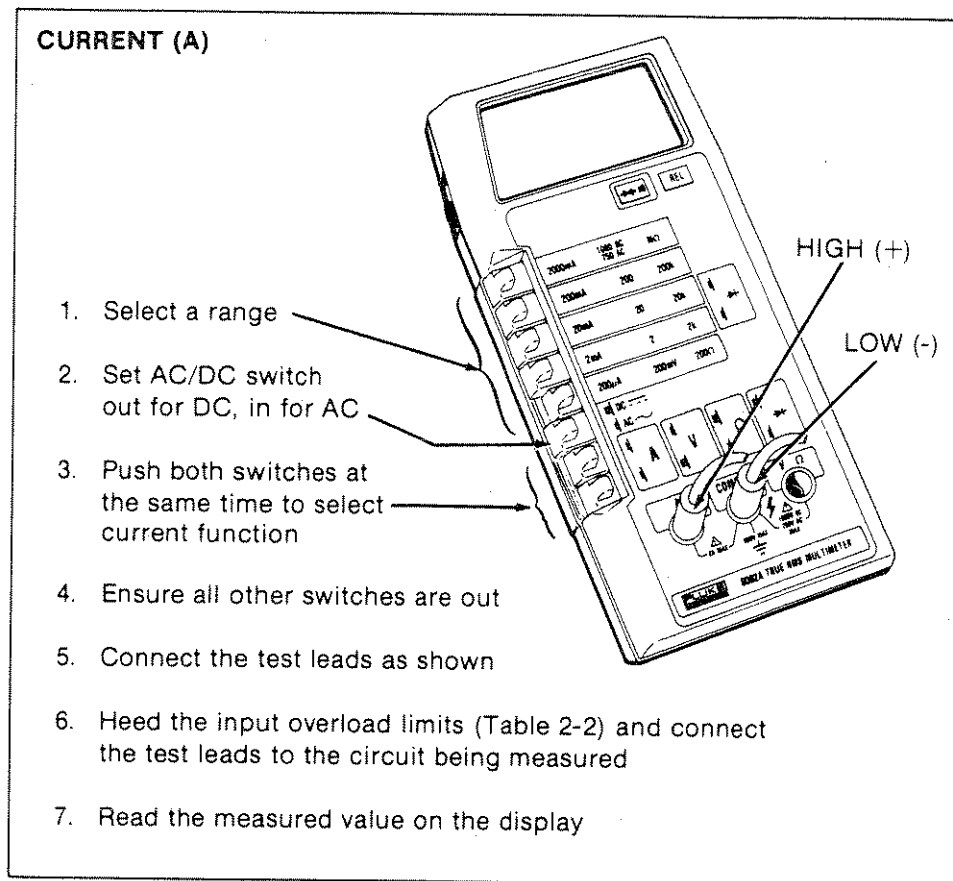

Figure 2-10. Current Operation
Selection of the ac or dc current (A) function is described in Figure 2-10. The 8062A offers five ac (true rms ac-coupled) and five dc current ranges: 200 μ A, 2 mA, 20 mA, 200 mA, 2000 mA. Each range is protected by a 2A/250V fuse in series with a 3A/600V fuse.